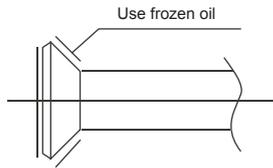

Fig.8-1
- ① Bend the tubing in proper way. Don,t harm them.
- ② Daub the surfaces of the flare pipe and the joint nuts with frozen oil, and wrench it for 3~4 rounds with hands before fasten the flare nuts. (Refer to Fig.8-1)
- ③ Be sure to use two wrenches simultaneously when you connect or disconnect the pipes.